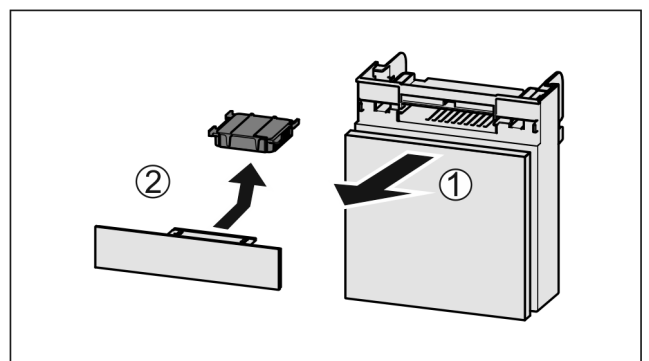

Fig. 158
- Pull out the compartment Fig. 158 (1).
- Remove the carbon filter Fig. 158 (2).